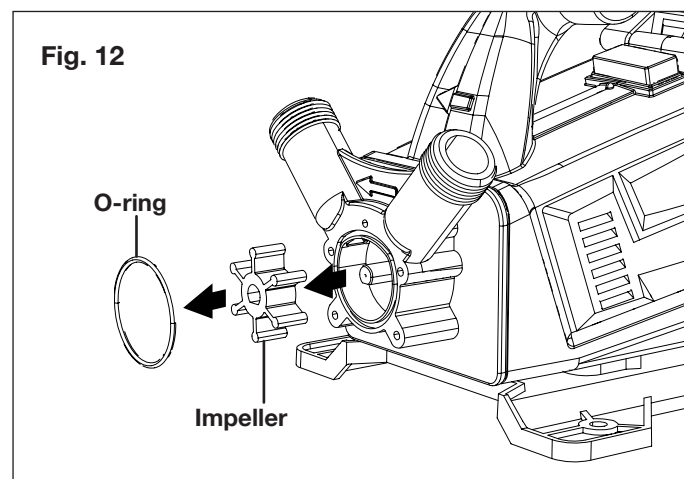

Fig. 12
3. Remove the worn impeller and O-ring (Fig. 12).